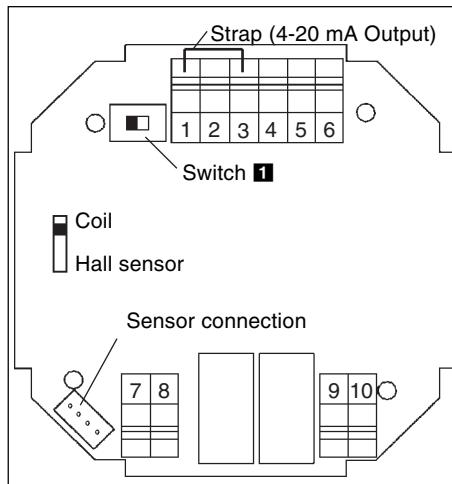
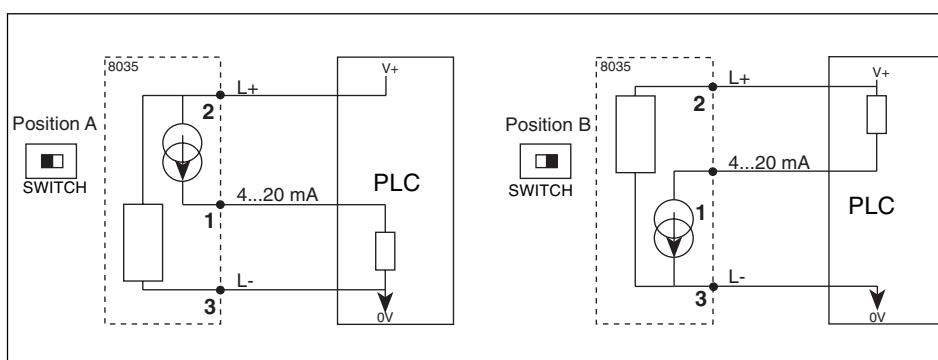

Fig. 3.6 Pin assignment SE35 with relays
Fig. 3.7 SE35 with relays, 4-20 mA output connection to a PLC
Ensure the electrical wiring via 2 cable glands. Remove cover, pull cable through PG 13.5 and wire according to following pin assignment (fig. 3.6):
**PLC-connection:** Depending on the PLC-version, set the switch **1** on the circuit board to position A or B (fig. 3.6 and fig. 3.7).
**4-20 mA Output:** If the 4-20 mA current output is used, remove the strap (1-3) (see fig. 3.6).
**Warning:** If the current output 4...20 mA is not used: set the switch **1** in position A (fig. 3.7) and the strap between 1-3 (fig. 3.6).